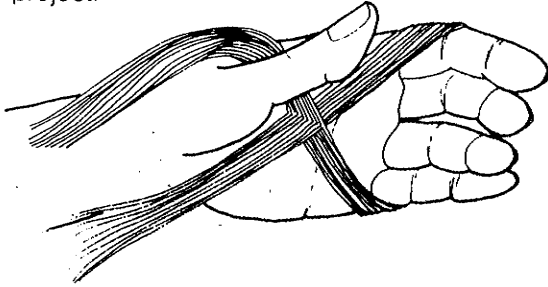

fig. 7
2. Lift the warp chain off board or posts. Place left hand through the warp cross with fingers in top loop and thumb below cross (fig. 7). Remove crossie.